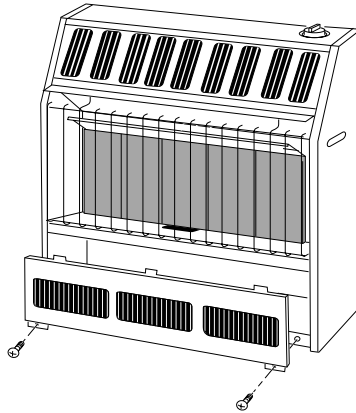

Figure 8 - Removing Front Panel of Heater (Model FA-5B Shown)
2. Pull bottom of lower front panel forward, then down (see Figure 8).
WARNING: Maintain minimum clearances shown in Figure 8. If you can, provide greater clearances from floor and joining wall.